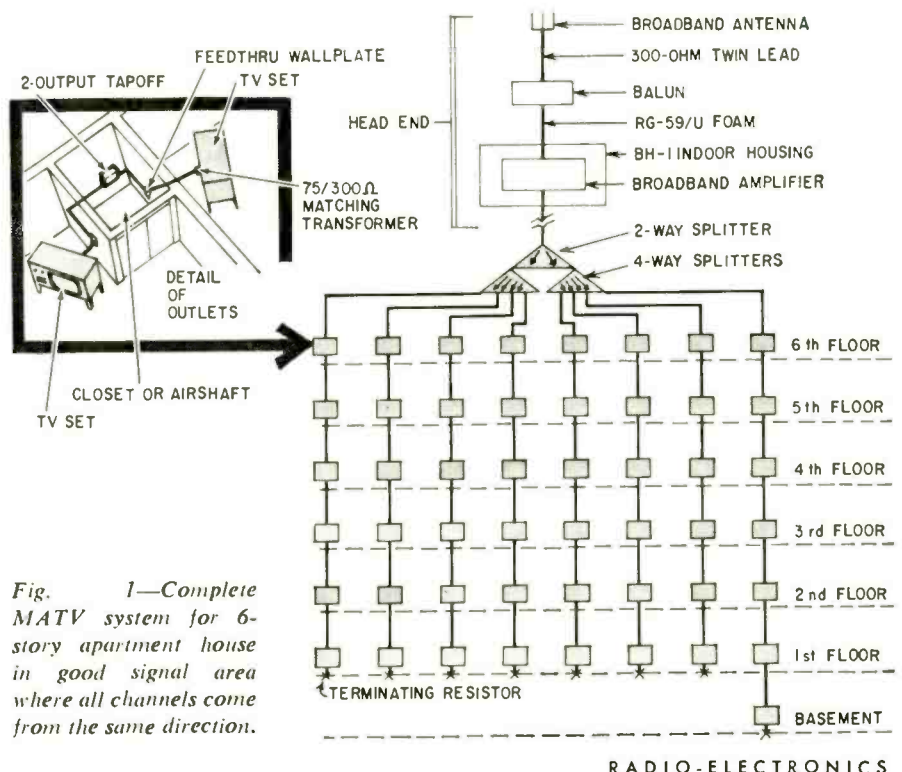

Fig. 1—Complete MATV system for 6-story apartment house in good signal area where all channels come from the same direction.
Moreover, equipment manufacturers are eager to help in planning systems. The major MATV equipment makers, Blonder-Tongue and Jerrold, maintain application engineering departments whose sole job is to help you design and install systems. Send them a description of the building and prevailing local signal conditions, and they will design the system for you. A typical system design prepared by an applications engineer and sent to a TV technician looks a lot like Fig. 1.
Now that we have through lines for each apartment in Fig. 1, we must provide *tapoff*. A tapoff takes a portion of the signal from the through lines and feeds it to the TV set. It also isolates the set from the through line.
**1. Cable loss.** In the system shown in Fig. 1, there are about 150 feet of RG-59/U (foam dielectric) between the head end and the basement set. The table shows that RG-59/U foam cable causes a loss of 4.2 db per 100 feet at